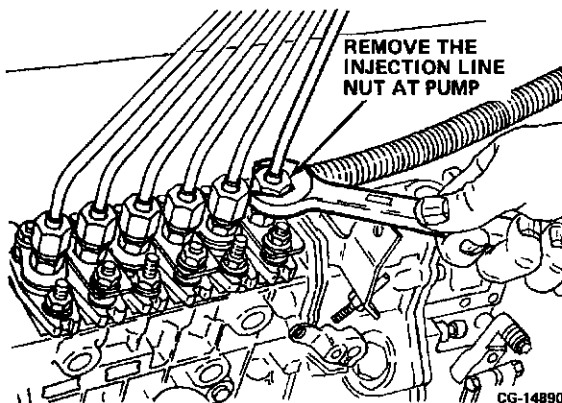

Figure 11.54. Remove Injection Line Nuts at Pump
2. Loosen and remove the fuel injection line nuts at the pump. Refer to Figure 11.54.